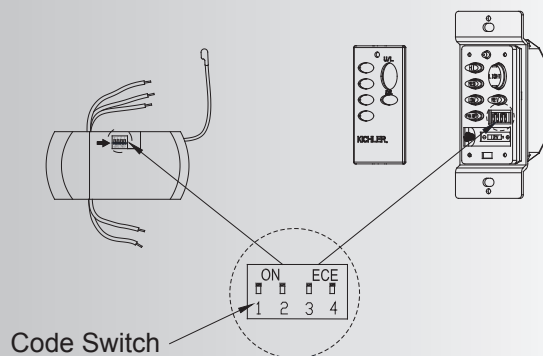

Fig. 8
**NOTE:** The CoolTouch™ Control System is equipped with 16 code combinations to prevent possible interference from or to other remote units. The frequency switches on your receiver and transmitter have been preset at the factory. Please recheck to make sure the switches on the transmitter and receiver are set to the same position, any combination of settings will operate the fan as long as the transmitter and receiver are set to the same opposition. ( Fig. 8) Changing the order of switches on each switch block, changes the operational frequency.